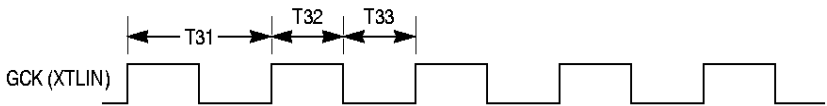

Figure 9-1 Timing Diagram - GCK (XTLIN)
- Figure 9-1, Timing Diagram - GCK (XTLIN)